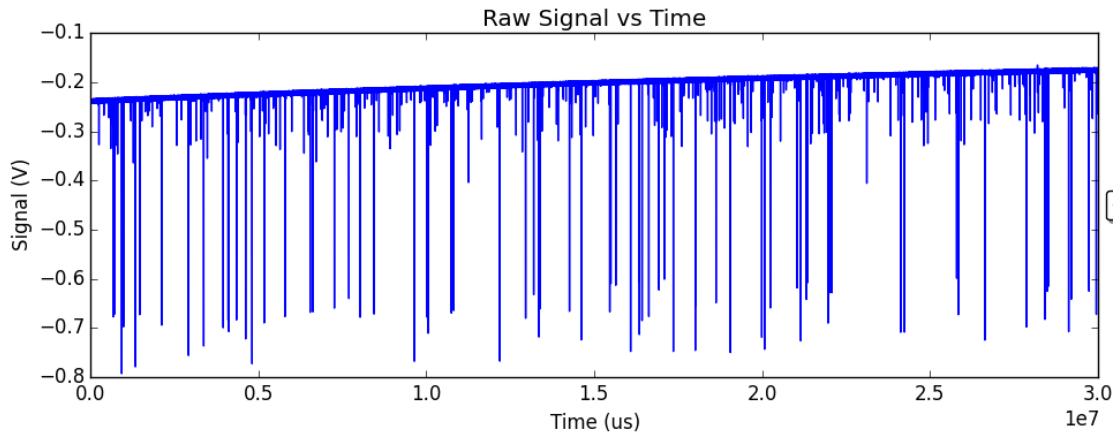

Figure 8. Exemplary raw data: Smooth baseline with particle detection events appearing as downward spikes.
- Raw data should have the form shown in Figure 8—it has a smooth baseline with particle detection events appearing as downward spikes from the baseline.